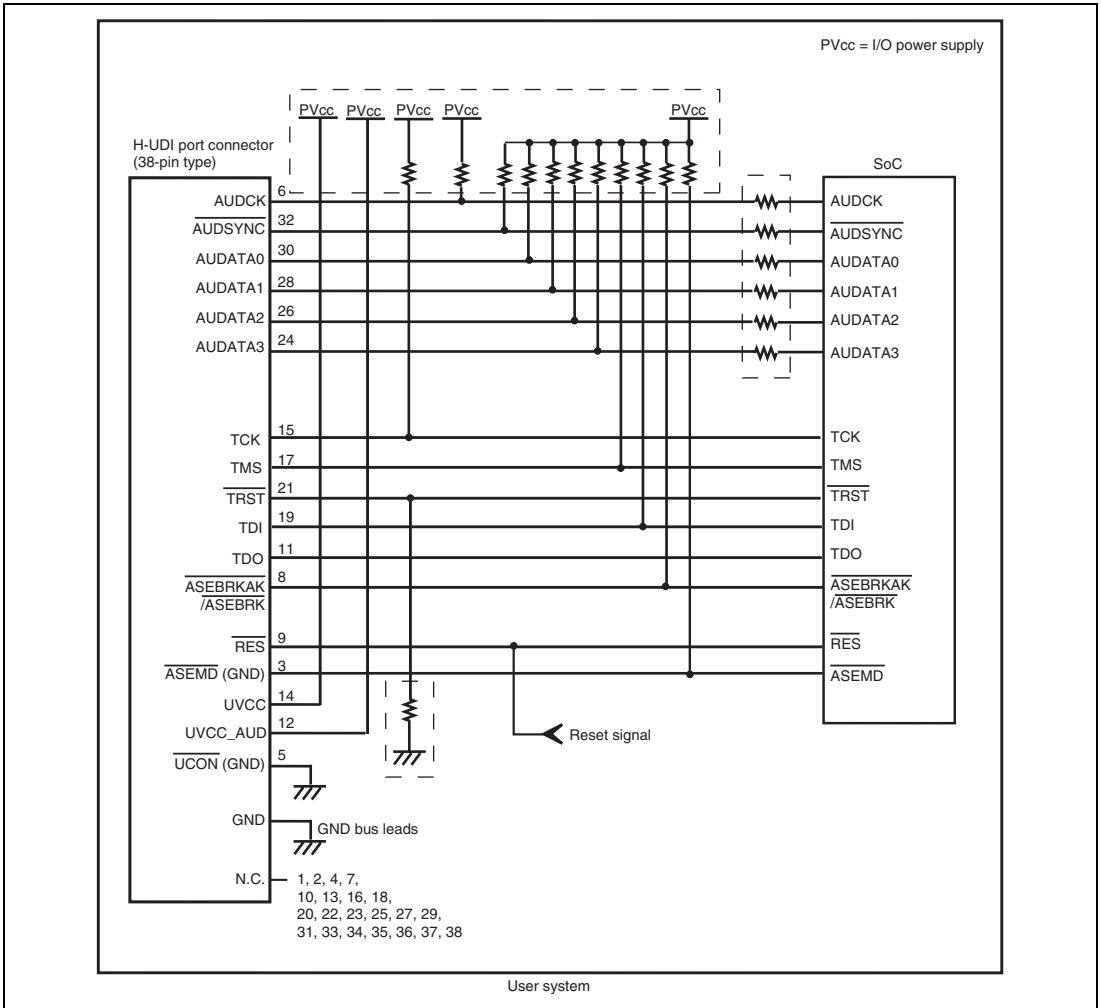

Figure 1.7 Recommended Circuit for Connection between the H-UDI Port Connector and MCU when the Emulator is in Use (38-Pin Type)
Figure 1.7 shows a recommended circuit for connection between the H-UDI and AUD port connectors (38 pins) and the MCU when the emulator is in use.
- (1) When the emulator is used: ASEMD# = 0
- (2) When the emulator is not used: ASEMD# = 1Figure 1.7 shows an example of circuits that allow the ASEMD# pin to be GND (0) whenever the emulator is connected by using the user system interface cable. When the ASEMD# pin is changed by switches, etc., ground pin 3. Do not connect this pin to the ASEMD# pin.
When the circuit is connected as shown in figure 1.7, the switches of the emulator are set as SW2 = 1 and SW3 = 1. For details, refer to section 3.8, Setting the DIP Switches, in the SuperH™ Family E10A-USB Emulator User's Manual.